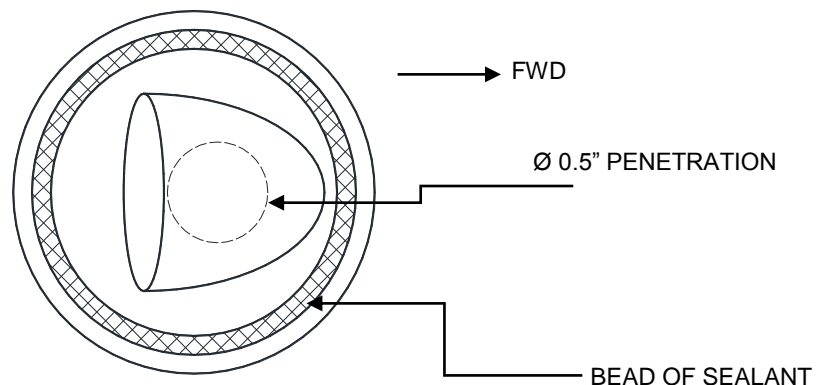

Figure 18: Venturi Vent
9. Install Venturi Vent over each of the two penetrations, with orientation as shown in Figure 18. Remove any excess sealant.